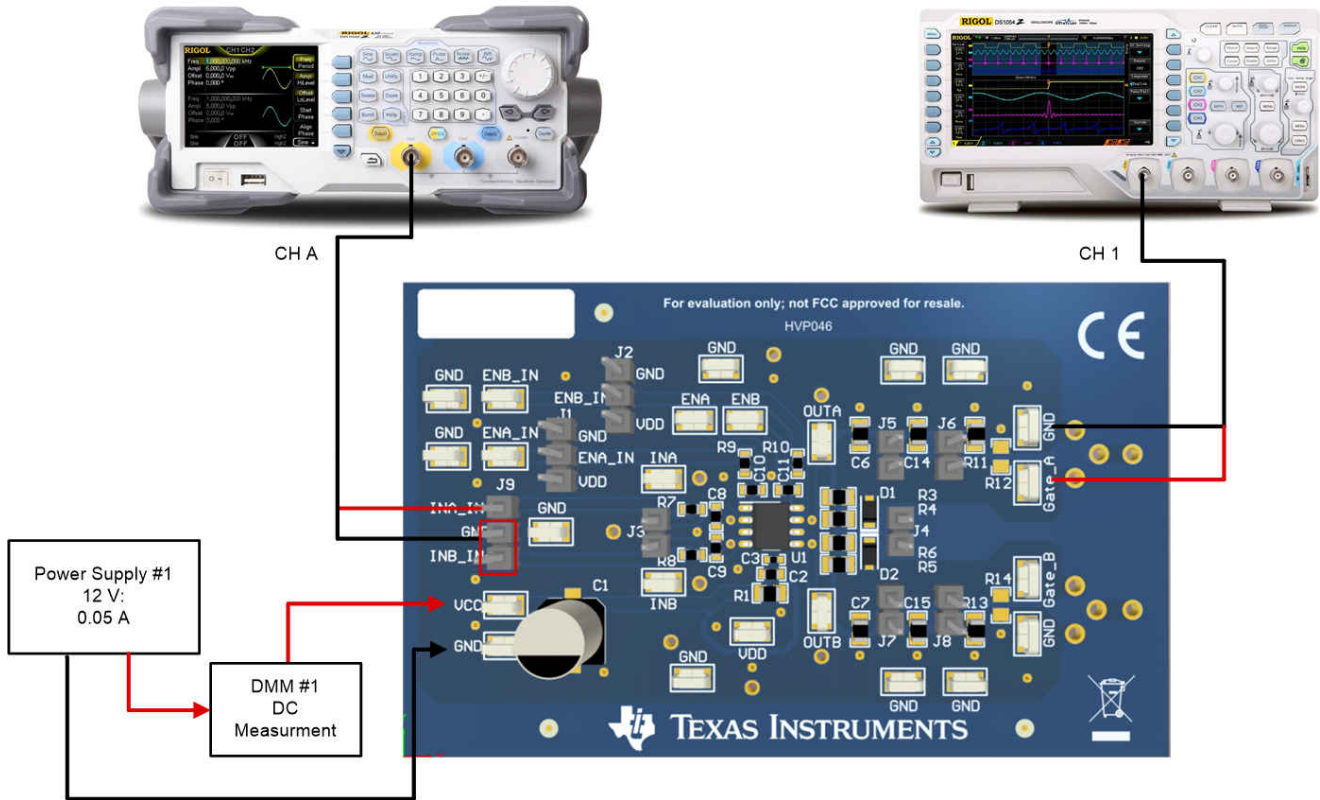

Figure 4-1. Bench Setup Diagram and Configuration
This procedure details how to configure the UCC27614EVM evaluation boards. Within this test procedure, the following naming conventions are applied. See the UCC27614EVM *Bench Setup Diagram and Configuration*, Figure 4-1, for details.
Use the following connection procedure, refer to Figure 4-1.
1. Before beginning the power up test procedure, verify the connections with Figure 4-1.